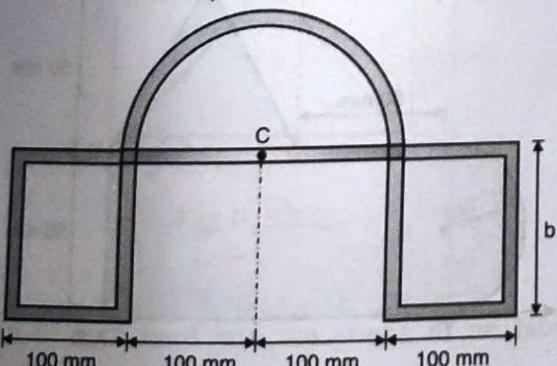

Fig. Q. 3
- 3 Determine the dimension 'b' if centroid of a bent wire is to be at point C shown in Fig. Q. 3.